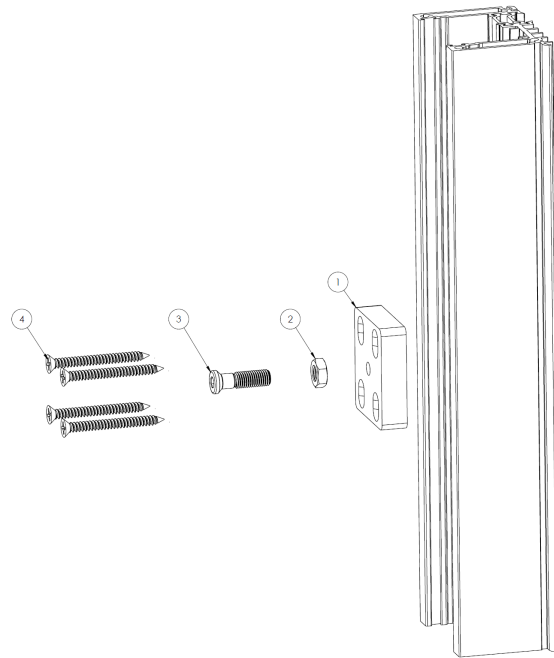

Figure 10
16. Drill four (4) 3/16" clearance holes at the marked locations of the strike plate. Anchor the lock strike to the jamb with #10 x 2" PH Flat Head screws. Shim as needed to avoid bowing the frame. (See Figure 10)